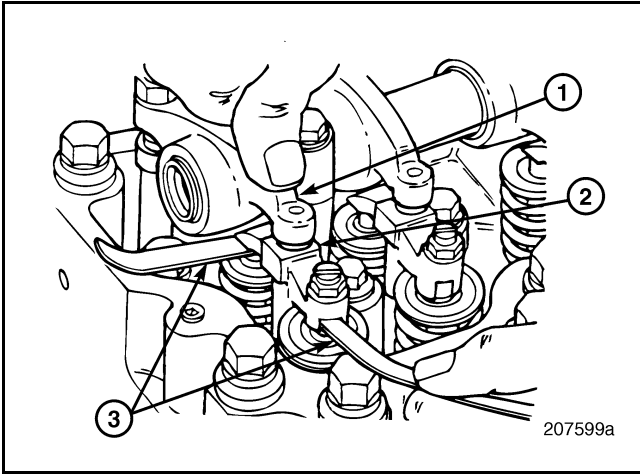

Figure 328 — Checking Yoke Adjustment
- b. Exert moderate force on the yoke by pressing on the rocker arm slipper end as shown in Figure 328. An equal drag should be felt on both thickness gauges. If drag is unequal, readjust the yoke adjusting screw, as required.